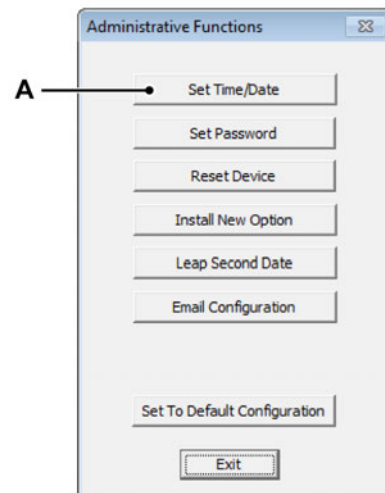

Figure 14.77: Administrative Functions - GMR1000
- 9 Edit the date by clicking on the **Set Time/Date** button in the **Administrative Functions** dialog (see Figure 14.77).